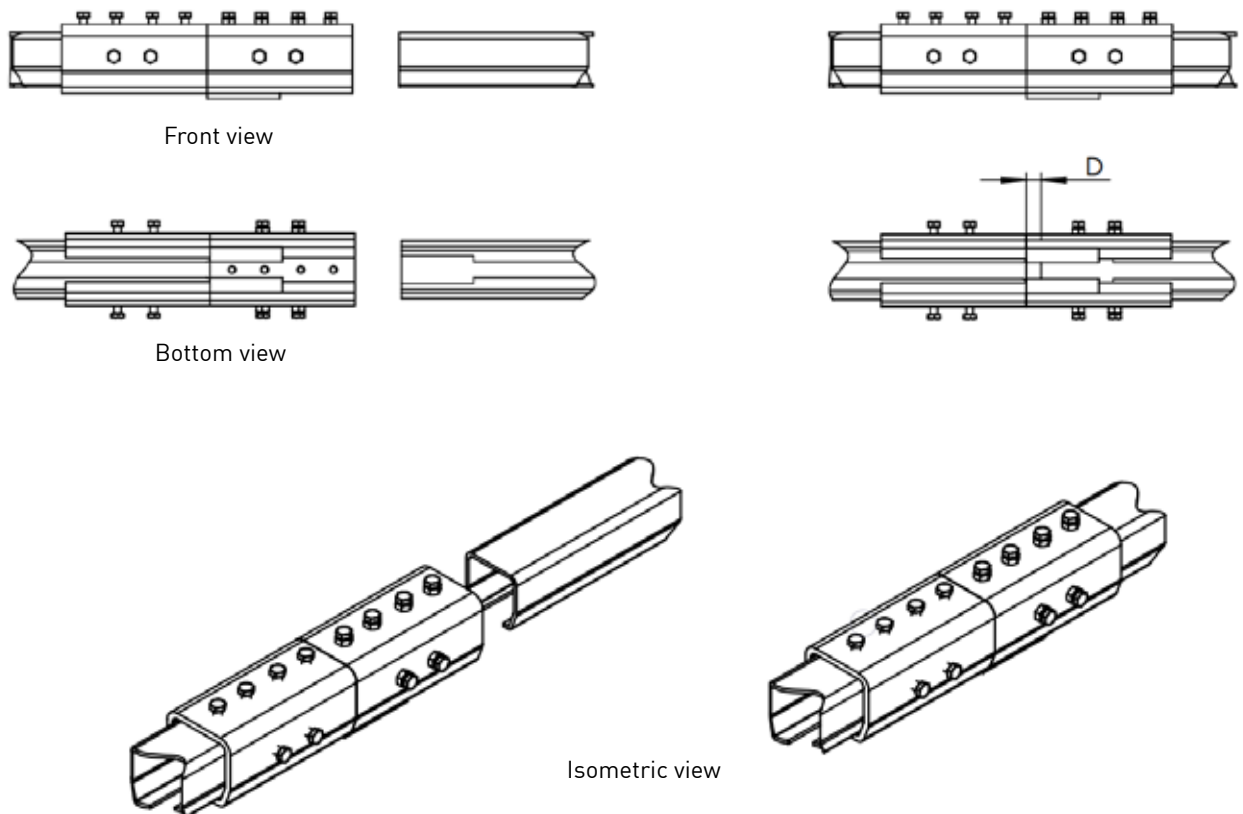

Fig. 56
Step 3 : Slide the cut profile section into the dilatation joint, as illustrated in fig. 56 and position the profile edge at the specific distance from the center of the joint, according to Table 10.